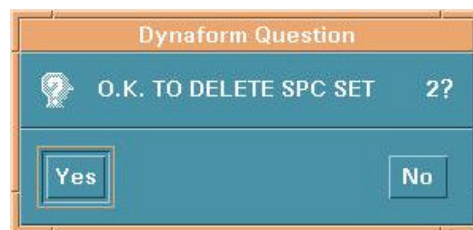

Figure 6.6.8 Delete SPC Set Question
- Confirm the delete in the DYNAFORM Question window (Figure 6.6.8).